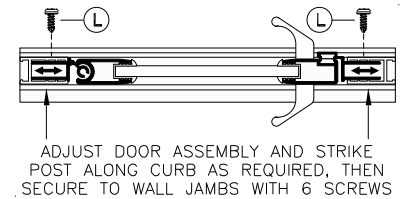
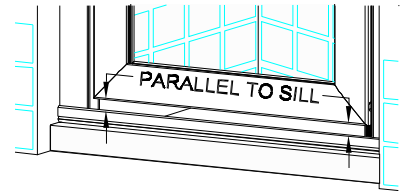

figure 4
figure 5
6. Attach the Door Handles (E) to the Door Assembly using two(2) Door Handle Screws (F) as shown in exploded view - sheet 1.
7. Adjust Door Assembly and Strike Post along curb as required (see figure 4). Bottom of Door Assembly must always remain parallel to Sill in order for door to operate properly (see figure 5). When satisfied with door operation, secure Hinge Post (c1) and Strike Post (D) to the Wall Jambs (B) using six 638PHPT Screws (L), (see figure 4) and exploded view - sheet 1.